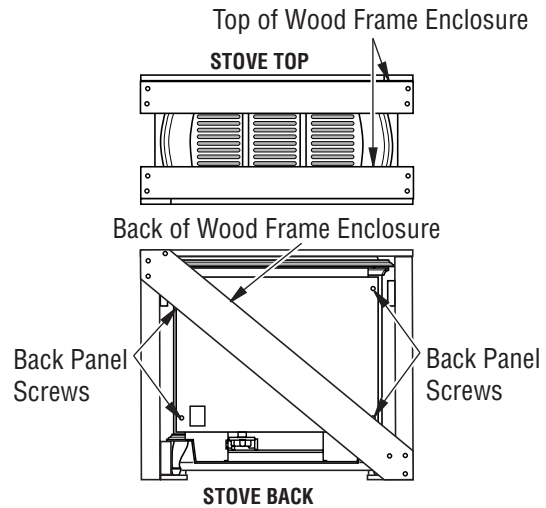

Figure 6 - Unpacking Stove from Wooden Shipping Enclosure
4. Remove back panel from stove (see Figure 6). Use an adjustable wrench or a 10 mm socket. Remove 4 bolts and washers. Keep bolts and washers to reattach back panel later.